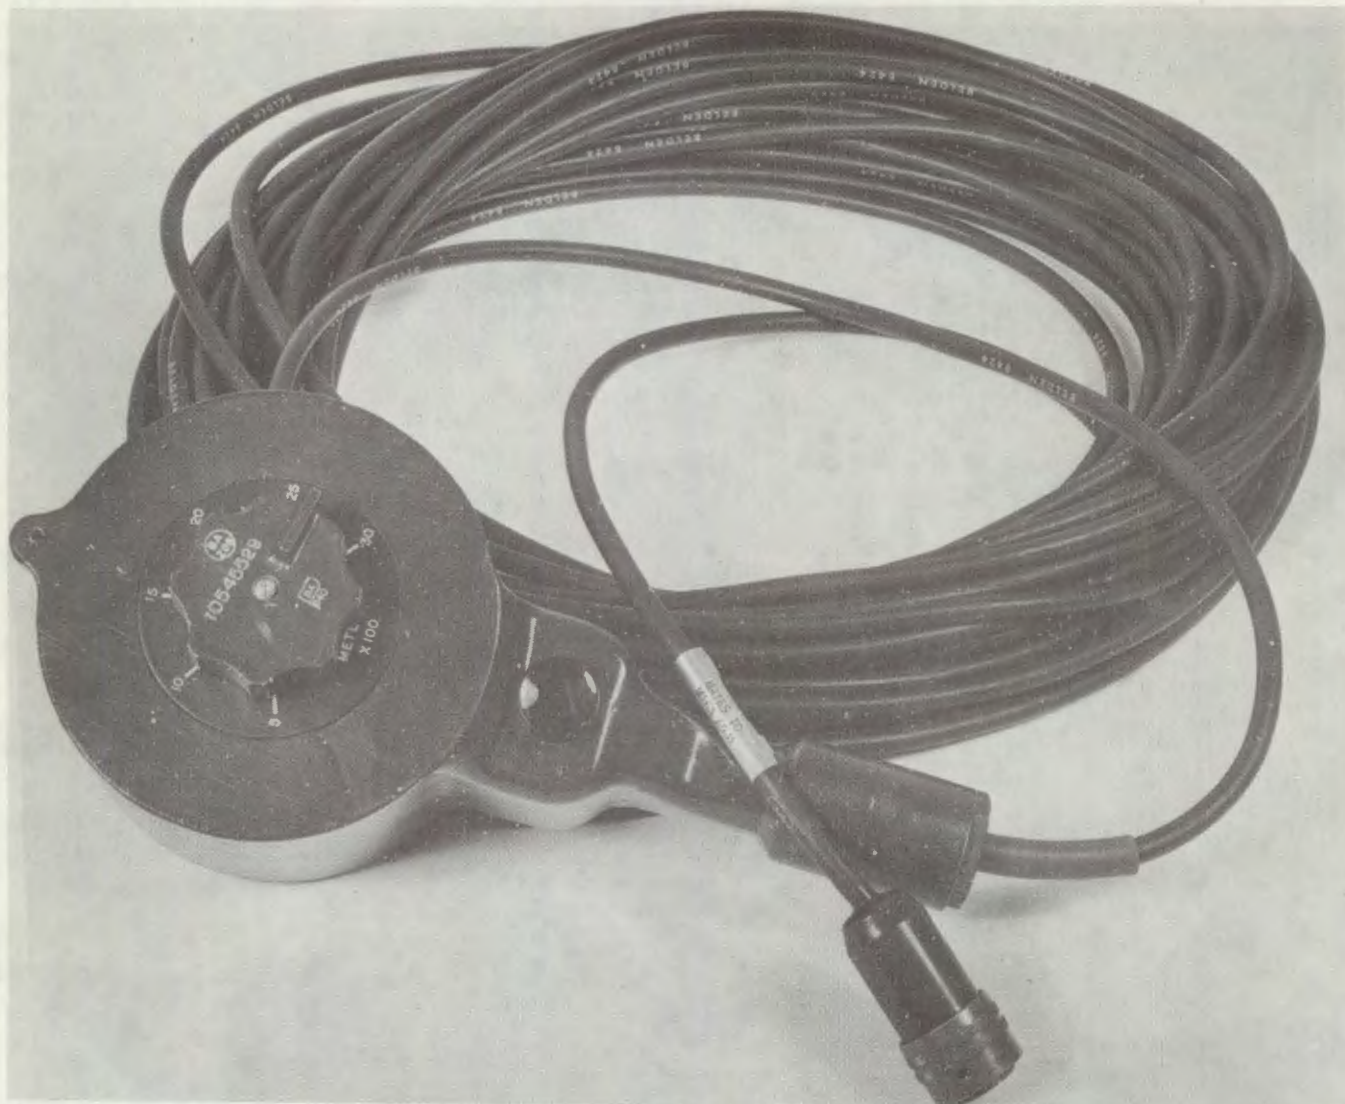

Figure 3-19. External range unit.
j. External Range Unit (fig. 3-19). Used to feed the pre-set range information to the sight current generator. A speed of 400 knots is automatically generated by the SCG. The normal range and speed input circuits are disabled when the external range unit is connected to the system through the remote range control assembly on the rear of the vehicle.